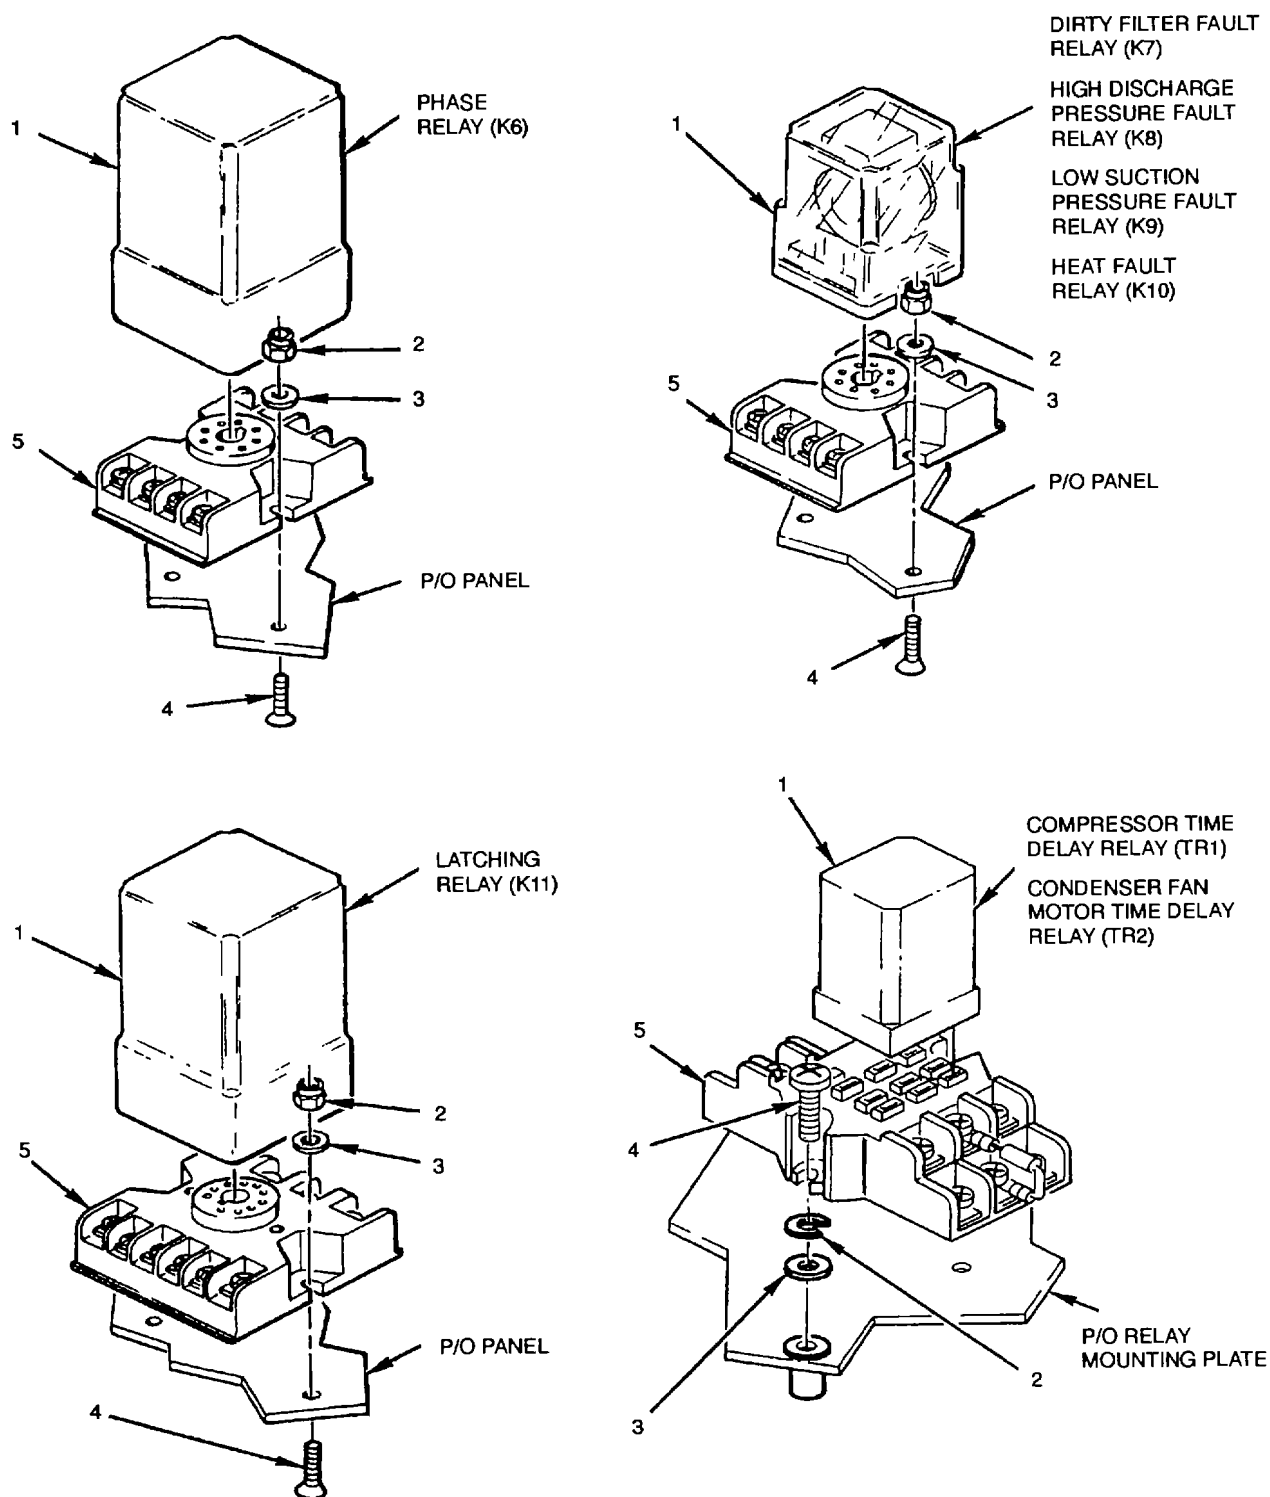

Figure 4-33. Relay Sockets (K6-K11, TR1 and TR2)
- (1) Disconnect air conditioner input power at source; and
- (2) Remove control box assembly (paragraph 4 27).
- a. Pull relay (1) from socket (5) (see fig. 4-33)